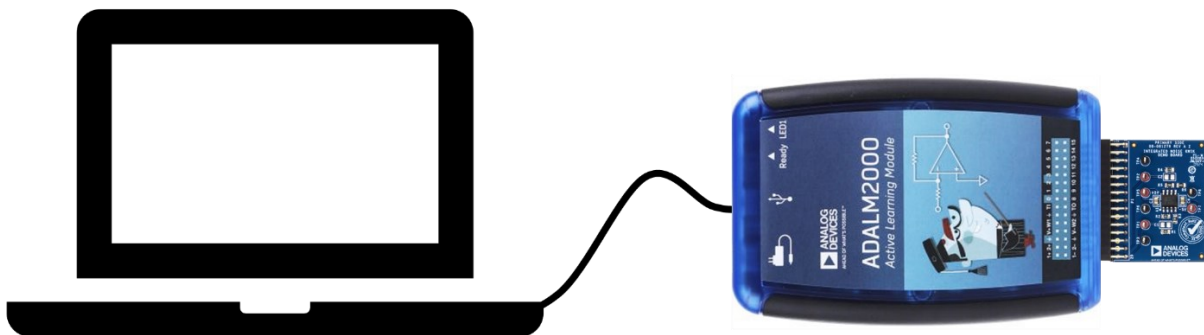

Figure 5. Connecting the ADALM2000 to the computer
- Plug in a micro-USB cable to the connectivity port as shown in Figure 5 and connect the ADALM2000 into the computer.